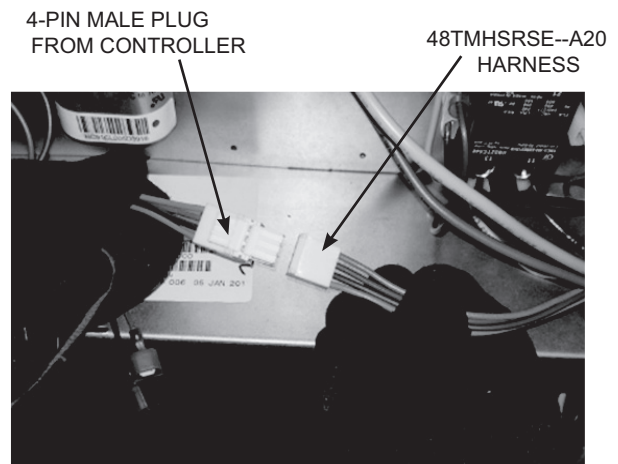

Fig. 13 — Connect 48TMHSRSE--A20 Harness to Harness from Controller
17. Locate the 48TMHSRSE--A20 harness (with 4-pin female plug) provided in the hardware kit with the EconoMi\$er X assembly. Connect the 48TMHSRSE--A20 harness to the 4-wire harness with a male plug from the Jade controller harness. See Fig. 13 and page 9.